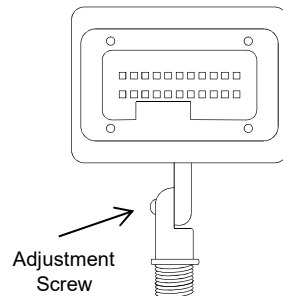

Figure 1
4. To adjust the vertical position of the luminaire, use a Philips head screwdriver to loosen the adjustment screw. Reposition the luminaire head to the desired position, then re-tighten the adjustment screw (see Figure 1).